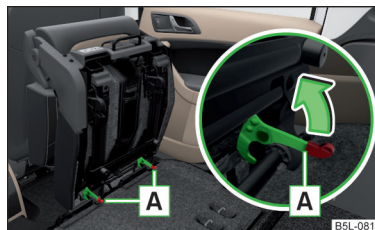

Fig. 74
- › Lock the folded forward seat by pressing the seat locks **A** in the direction of arrow » Fig. 74.
- › If the seat has been removed, first position it on the guide and lock it in place using seat locking **A** » Fig. 74 on page 82.